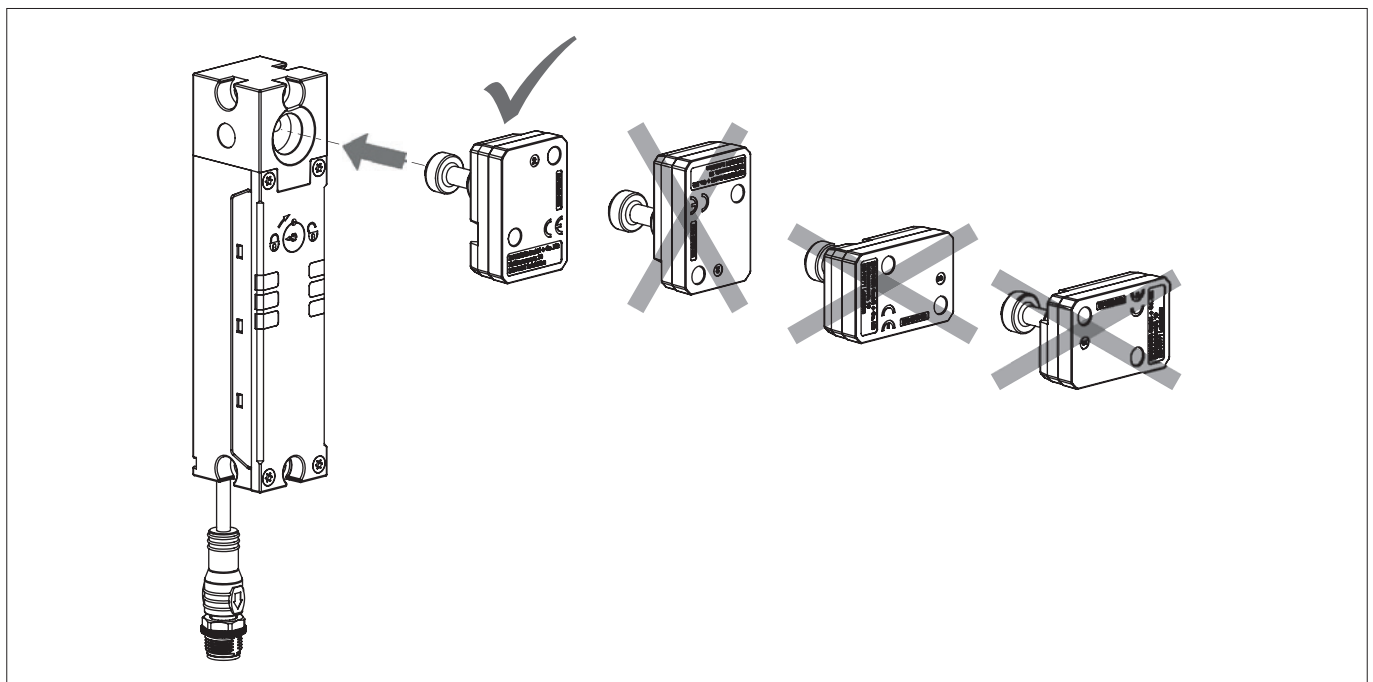

Fig. 2: Actuator alignment
- › Actuator and safety switch must be mounted such that the actuator is perpendicularly and completely inserted into the switch when the guard is closed (see Fig. 2). The guard locking function is not ensured if mounting is incorrect.